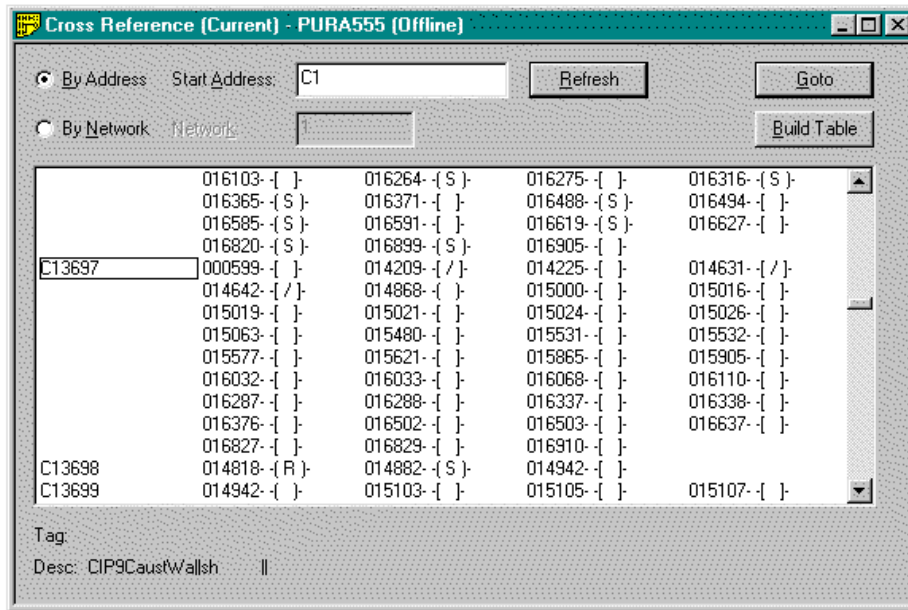

Figure 6.8b
1. Click  on the toolbar or select Cross Reference from the View menu. The Cross Reference window appears, Figure 6.8b. If you have more than one program loaded, the information displayed is for the program in the active window. The cross reference can be based on address or networks by checking the desired radio button on the cross-reference dialog box.